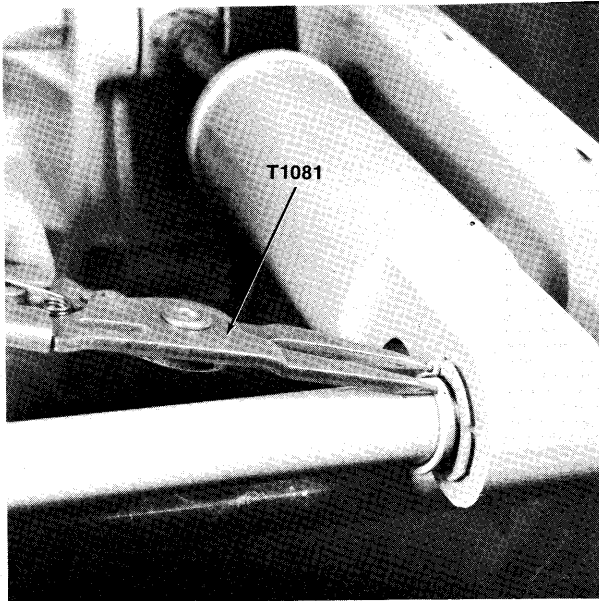

Figure 4—Repositioning Retaining Ring
- D. Using retaining ring pliers (Special Tool T1081), remove retaining ring securing bottom end of port shock absorber out of groove in shock absorber shaft — lower and reposition retaining ring toward starboard shock mount as shown in figure 4.
- A. Install nyliner bearing in bottom end of shock absorber so that when shock absorber is installed, flange of bearing is towards the inside. See figure 4.
- E. Position bottom end of shock absorber so that contoured side of shock absorber is towards stern bracket lock bar. See figure 4.
- G. Drive shaft through hole in shock absorber and starboard stern bracket. Secure shaft to stern bracket with retaining ring using retaining ring pliers (Special Tool 1081). See figure 4.
- H. Replace retaining ring against nyliner of port shock absorber using retaining ring pliers (Special Tool 1081). See figure 4.